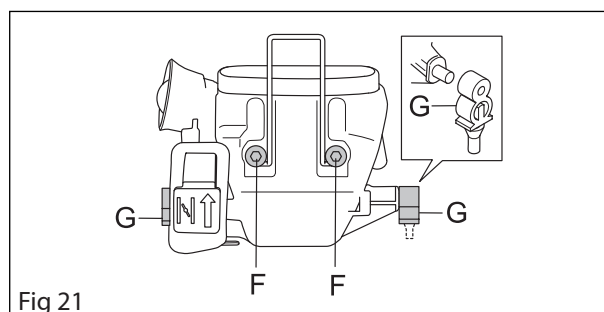

Fig 21
6. Position the guide taps on the air filter holder in the rubber mountings (G). See figure 21.
10. Screw the carburettor in place (F). See figure 21.